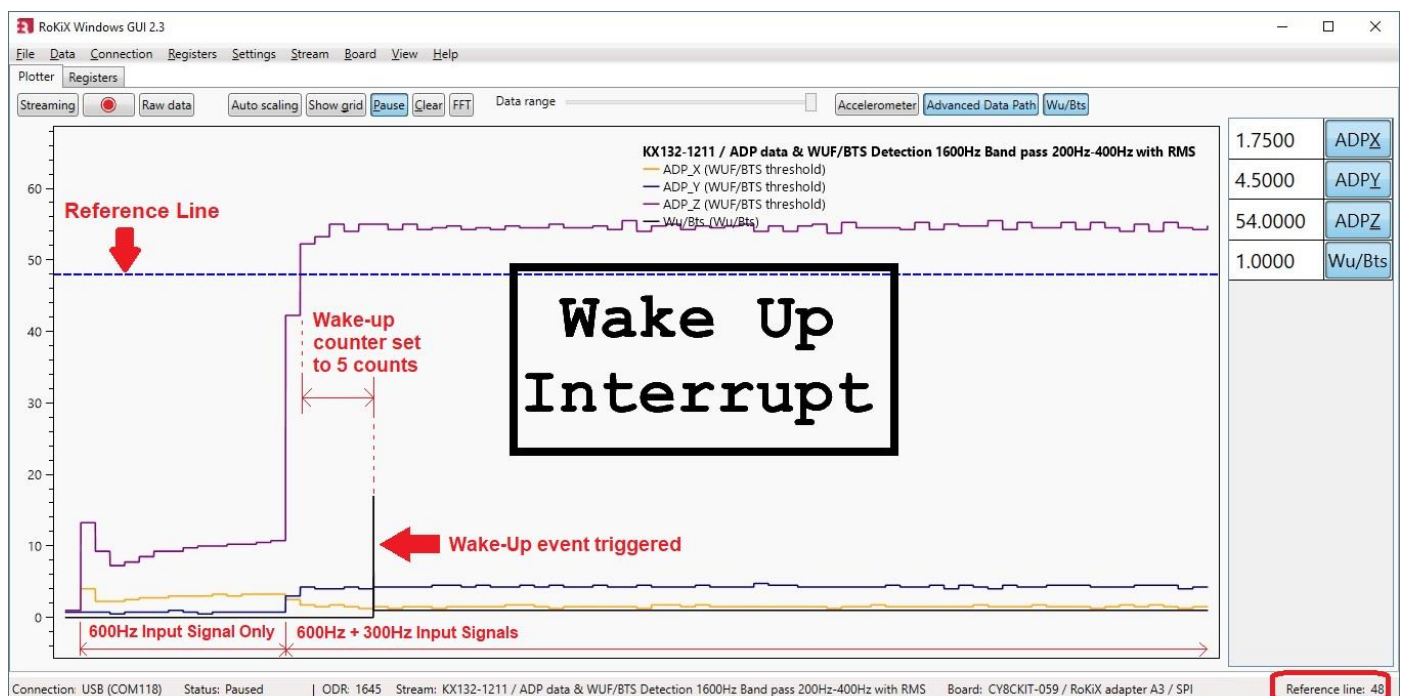

Figure 41. The plotter view with ADP & WUF data stream.
To review the ADP functionality further, consider an example shown in Figure 41. In this example, the selected stream for KX132-1211 sensors is ADP data & WUF/BTS Detection 1600Hz Band pass 200Hz-400Hz with RMS. This stream, which is available for SPI communication board configuration only, has the Advanced Data Path configured to band-pass filter topology with signal bandwidth set from 200Hz to 400Hz. The output is then routed to the RMS engine and then to the Wake-Up/Back-to-Sleep engines. The wake-up threshold is set to 48 counts as indicated by the reference blue dotted line, and the Wake-up counter is set to 5 counts. When raw data (4.4.1.1) is disabled the selected data stream will scale ADP output directly to values (unit is WUF/BTS Threshold). Reference line is also moved to the wake up threshold level (48) for easier comparison of the threshold value and ADP output value (4.3.8.3). Also Wake up pop-up window is enabled (0). The pop-up window will appear when wake-up event is active e.g. when signal within band pass frequency range is present.